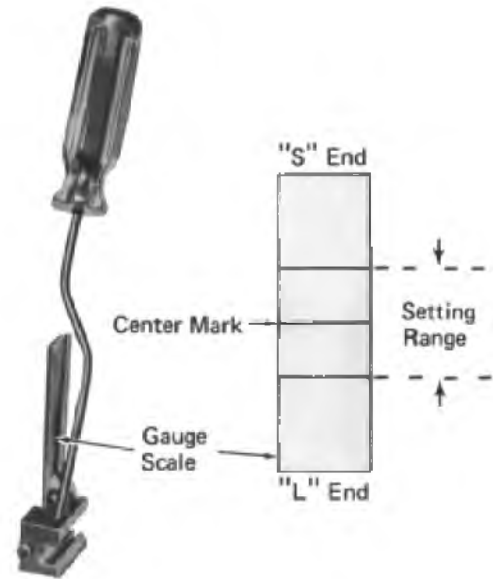

Fig. 11-11 - Injector Rack Gauge
3. Use the injector rack gauge, Fig. 11-11, to set the racks within the setting range marks on the gauge.